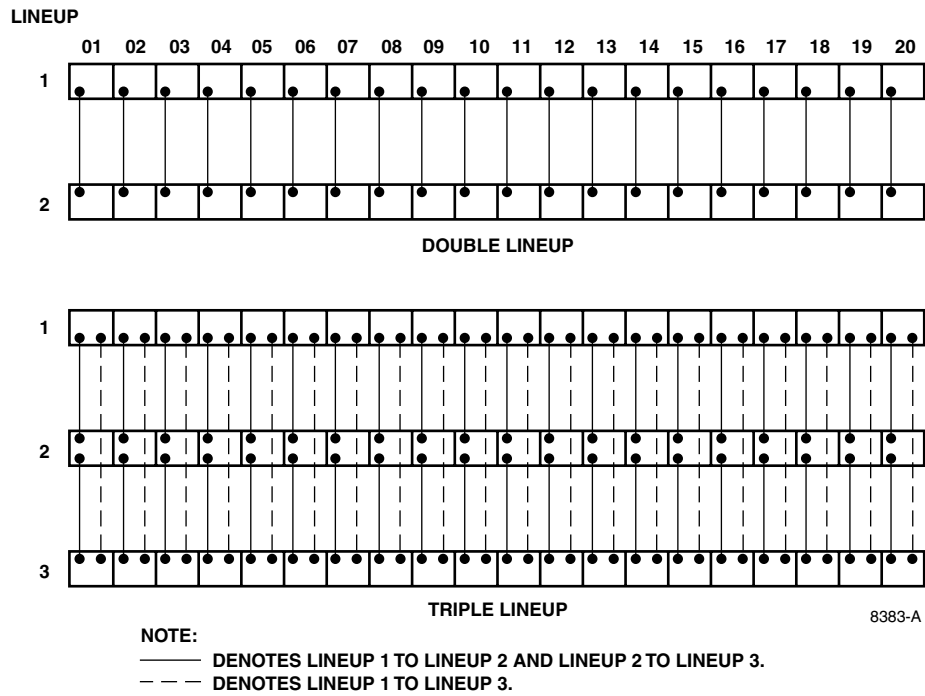
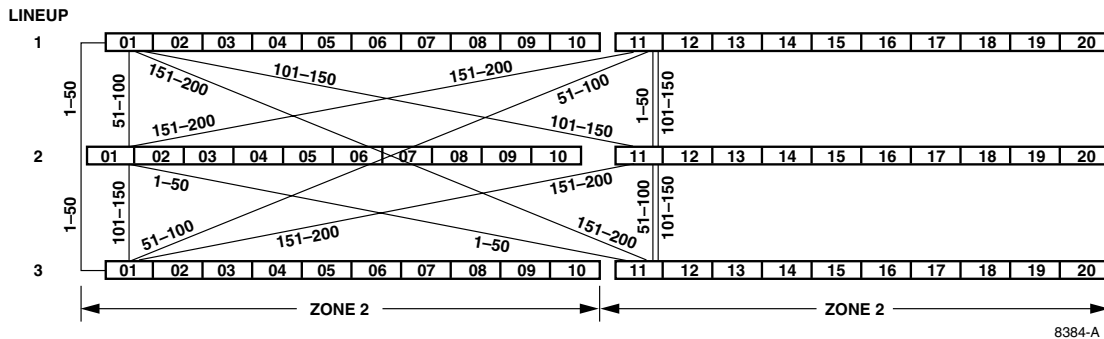
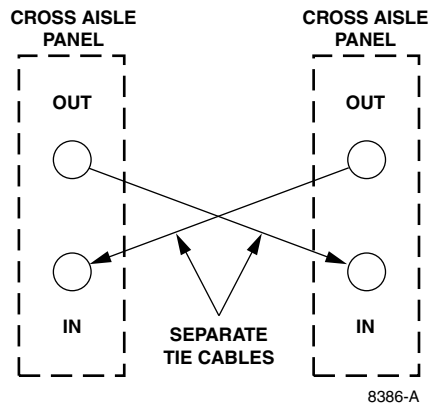

Figure 2. DSX-1/1C Cross-Aisle Panel Direct Wiring
Figure 3. DSX-1/1C Cross-Aisle Panel Two Zone Wiring
Figure 5. Typical Cross-Aisle Panel Cabling
- Direct wiring between like numbered bays as shown in Figure 2.
- Zoned wiring as shown in Figure 3.
In Figure 2, all Cross-Aisle Panels are cabled between the same numbered bays in each lineup. In this direct wiring design cross-connect wires are run from the Cross-Aisle Panel in the bay where they originate to the associated Cross-Aisle Panel in the same numbered bay of another lineup. This means that no horizontal wireway is required in the originating bay. The cross-connect is then extended to the terminating location, in most cases using a horizontal wireway in the second lineup.
In Figure 3, Cross-Aisle Panels are cabled between the same bays as in Figure 2, they are also cabled between like positioned bays in each zone. Figure 3 shows Cross-Aisle Panel cable routing for a two-zone cross-aisle tie wiring arrangement. This figure shows how the first bays in each zone are interconnected (all bay 1s and bay 11s). The cabling between other bays is not shown but is done in the same manner (all bay 2s and bay 12s, all bay 3s and bay 13s, etc.).
Table 1 shows point-to-point information for interconnecting three lineups with 20 bays each. In this example 200 cross-aisle circuits are provided in each bay with 50 circuit complements distributed as shown in Figure 3.
Connect the tie cables to the wire-wrap terminals on the Cross-Aisle Panels. Figures 2 and 3 show Cross-Aisle Panel wiring in typical multi-lineup systems. One recommended method of wiring is to connect the OUT terminals in one lineup to the IN terminals of the other lineup as shown in Figure 5.